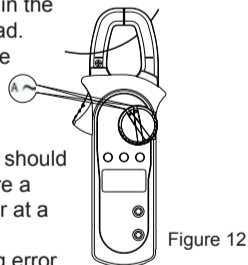

Figure 12
10. AC current measurement (A_{AC}) (See Figure 12)